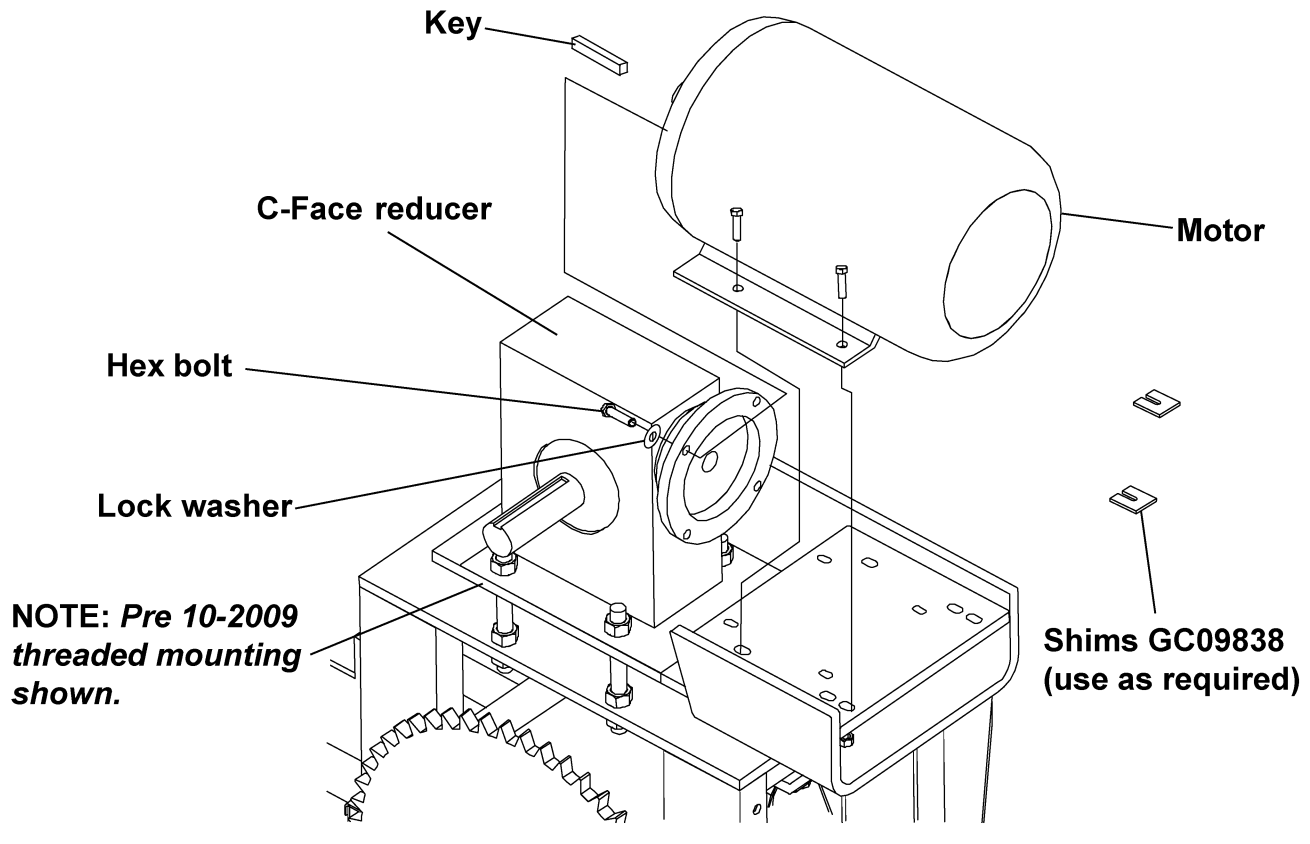

Figure 5X
A. Bolt the C-Face motor to the reducer using hex bolts, lock washers and a key. (See Figure 5X on Page 39.) (See the note on Page 39 for bolt size.)
- Assemble the Bottom Chain Guard Trap to the Bottom Chain Guard Weldment using 1/2" x 3" HHCS bolts, 1/2" split lock washers and 1/2" hex nuts. (See Figure 5X.)